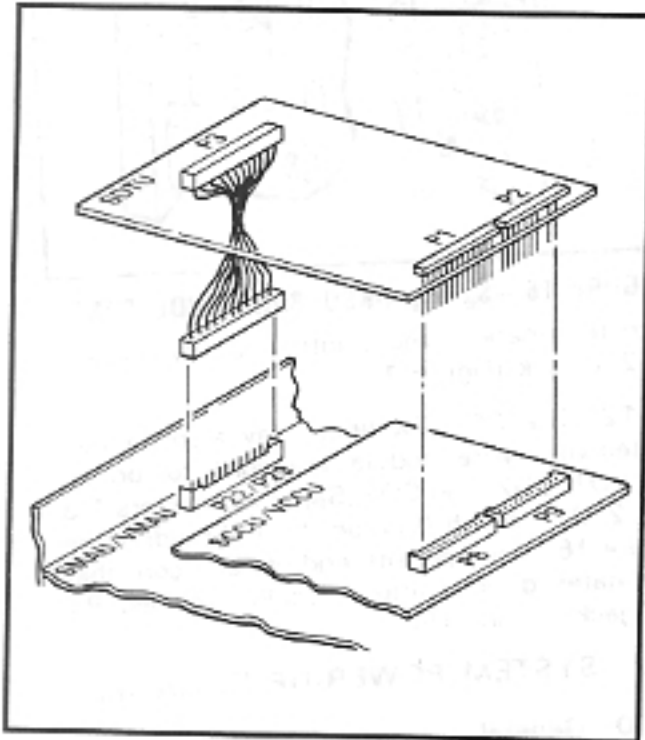

FIGURE 12—S_e/V_I_e SDTU LOCATION
05.82 Insert connectors P1 and P2 on the SDTU into the P8 and P9 connectors on the SCCU (Figure 12). Route the provided jumper cable from the SDTU P3 connector to the P22 connector on the SMAU.
05.83 Insert connectors P1 and P2 on the SDTU into the P8 and P9 connectors on the VCCU (Figure 12). Route the provided jumper cable from the SDTU P3 connector to the P29 connector on the VMAU.